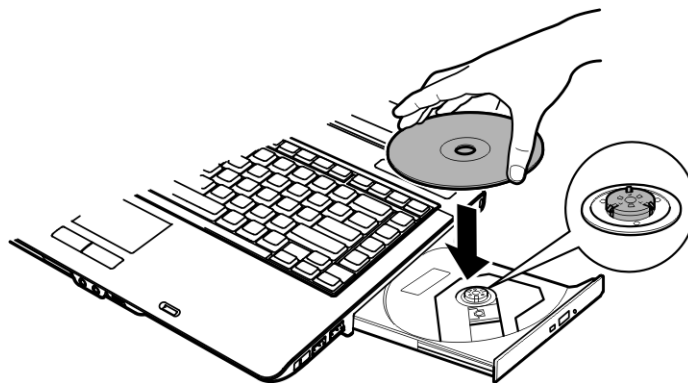

Figure 4-7 Inserting a CD/DVD
**Note:** When the drawer is fully opened, the edge of the computer will extend slightly over the CD/DVD tray. Therefore, you will need to turn the CD/DVD at an angle when you place it in the tray. After seating the CD/DVD, however, make sure it lies flat, as shown in figure 4-7.